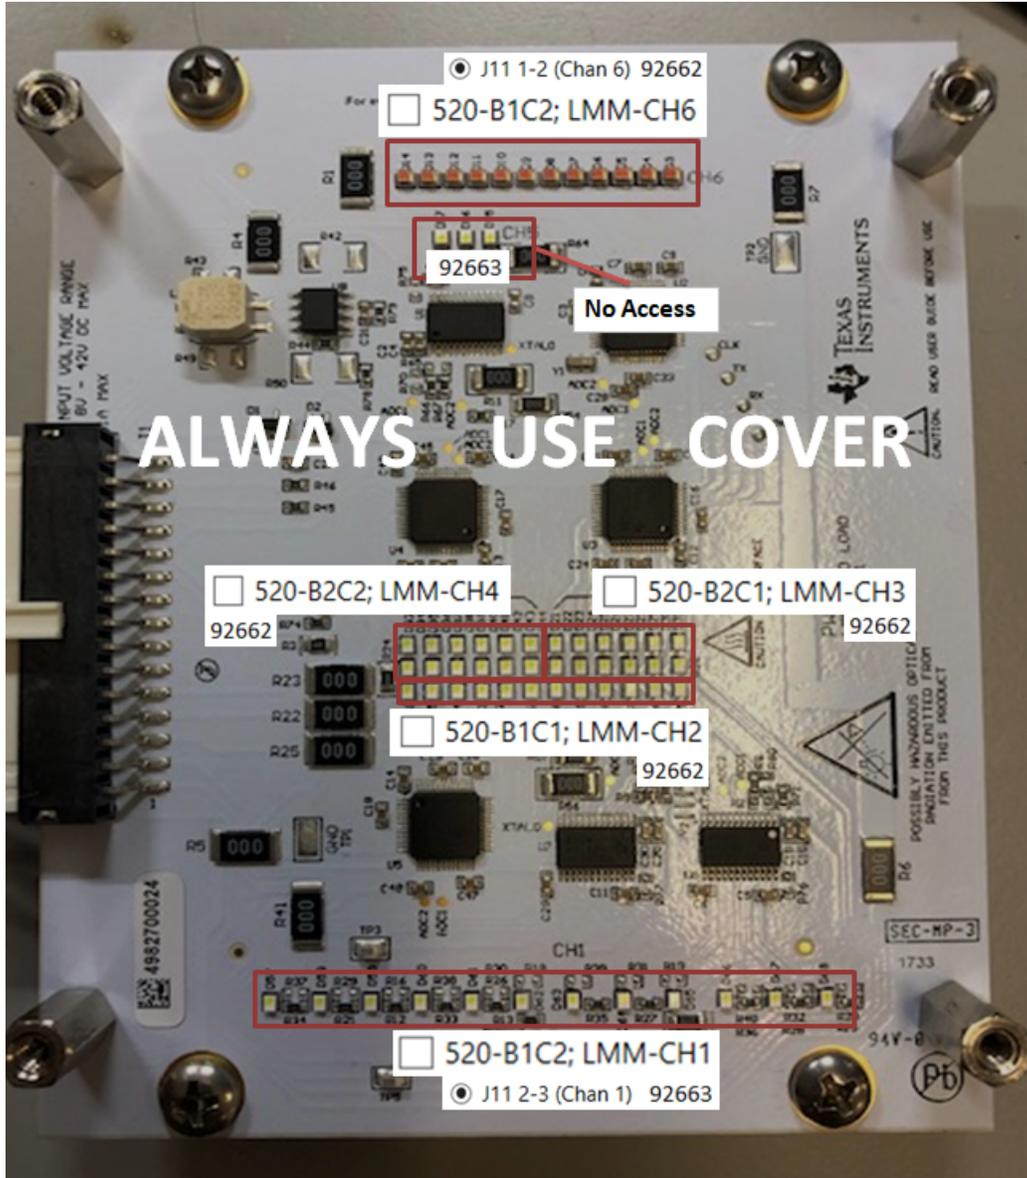

Figure 38. TPS92663EVM6-901 Addressing Outline
- **TPS92520 Channel Control Box (1):** This window includes controls for selecting the internal or external PWM. Setting **Analog Current** to full scale (1023) results in 1.6 A of output current. Ensure your load can accept this current level and adjust your settings accordingly. The slider automatically adjusts the respective CHxIADJL and CHxIADJH registers as the slider is moved. A checkmark in the **PWM Source Internal** box sets the PWM dimming input to the internal PWM generator (which is AND'd with the UDIMx input). The **PWM** slider adjusts the duty cycle where 1023 = 100%, 512 represents 50%, and so forth. The PWM dimming frequency is programmed to the default value (610 Hz) but can be adjusted using the terminal window and modifying the PWMDIV (0x0Ch) register. Refer to the TPS92520-Q1 1.5-A Dual Synchronous Buck LED Driver Data Sheet for details. The **STATUS** flags are also shown and report any faults occurring on the selected channel. Refer to TPS92520 registers STATUS1, STATUS2, and STATUS3 for a full description.
- **Channel Control and Boost Configuration Box (2):** This window is used to enable and disable each of the four channels. A sixth channel is referenced as the TPS92663EVM6-901 EVM contains six controllable channels, five of which are accessible. Figure 38 shows the physical channel configuration. A different channel can be selected using the jumper (J11) located near the header (J9). The boost voltage can also be adjusted using the slider control. The approximate output voltage is noted above the slider.
2. Select the address of the LMM device to communicate with. Refer to Figure 38 as a guide to find your desired LED string.